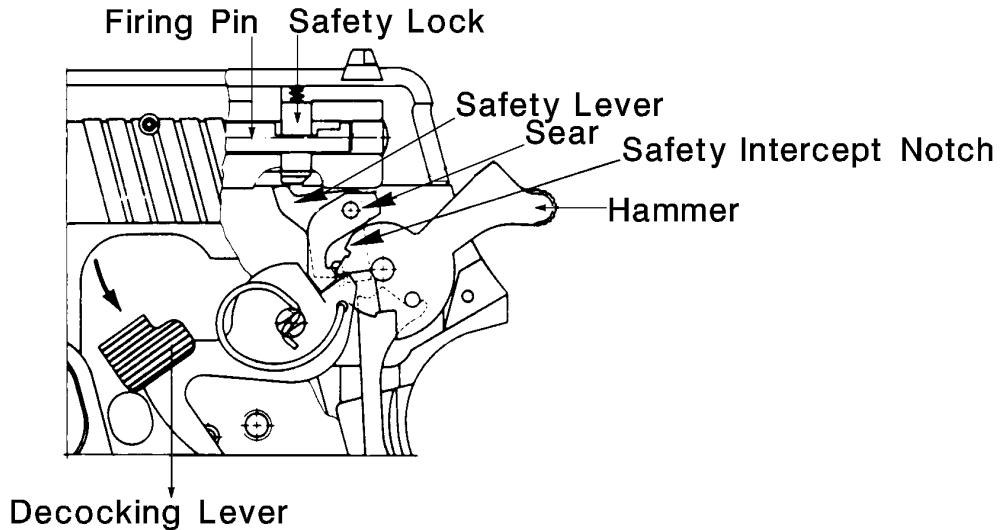

Figure 8 - Function of the Decocking Lever
- c. Decocking Lever, Safety Intercept Notch, and Hammer Reset Spring. (See Figure 8) The decocking lever allows the cocked hammer to be safely lowered into the safety intercept notch. The safety intercept notch is the rest position of the hammer in the double-action position. Thumbing down the decocking lever moves the sear out of register with the hammer's single action notch. The hammer then drops forward, and the decocking lever returns to its original position. The hammer is held by the sear engaging in the safety intercept notch. During this operation, the safety lever remains in its rest position and does not lift the safety lock. The hammer reset spring maintains contact with the hammer ensuring constant engagement of the safety intercept notch, except when firing.